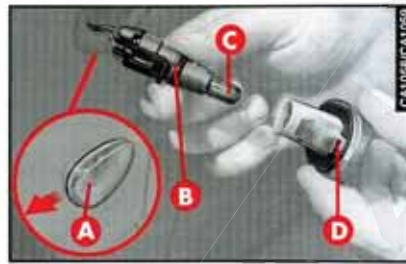

fig. 16
- Remove the indicator (A-fig. 16) complete with bulb holder (B-fig. 16) firstly pushing in the direction of the arrow and then releasing the rear.
- Withdraw the bulb holder (B-fig. 16) turning slightly.
- Remove the snap-fitted bulb (C-fig. 16) and change it.
- Insert the bulb holder in the indicator, then position the indicator making sure that the catch clicks (D-fig. 16).